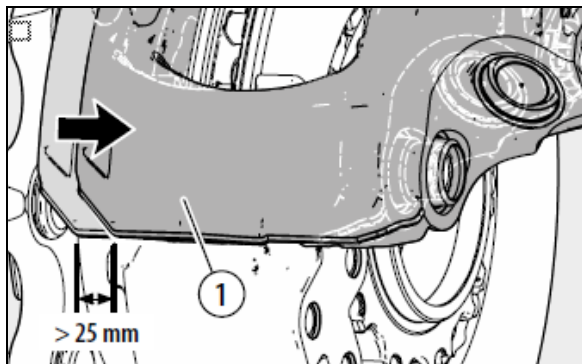

FIGURE 42: FREE MOVEMENT OF CALIPER > 0.984 IN / 25 MM
8. Caliper (1) must slide freely along the whole length of the guide pin arrangement; movement should be greater than 0.984 in / 25 mm. (see Figure 42).